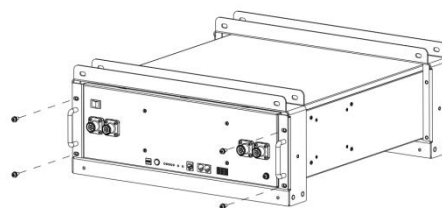

Figure 3-5
1. Place the DL5.0 and brackets as shown in the figure 3-5, and insert the DL5.0 into the brackets. Use 4 screws to fix the module on the front bracket.